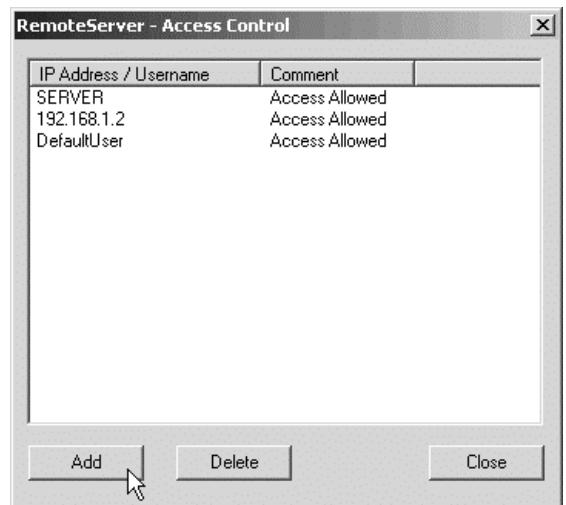

Figure 6.4. Access Control Window
4) After closing the *Setup* window, click **Access Control**, located on the *RemoteServer* window. The Access Control window will appear (Figure 6.4.)